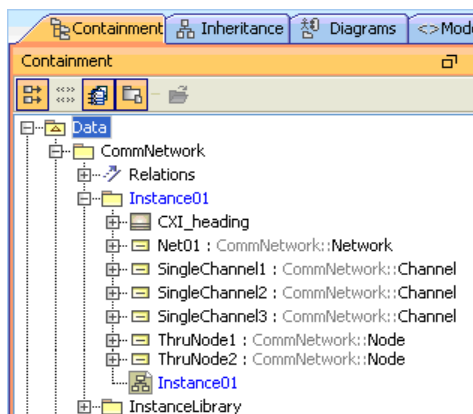

Figure 5.12 Instance01 contents
- v. Create an instance of the Network block inside Instance01, Name = Net01. The final contents of Instance01 should appear as in Figure 5.12